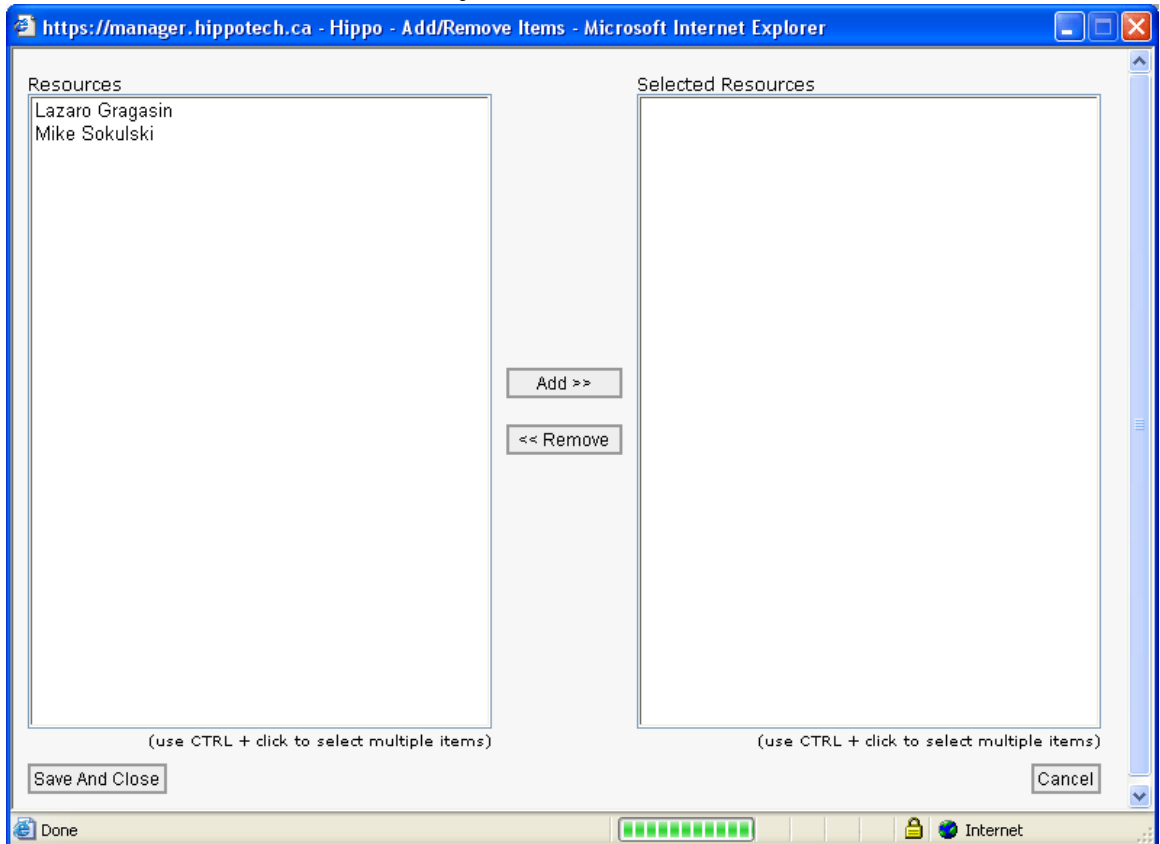

Figure 43: Adding Resources
- f. Resources (select the resources that will automatically be listed on the work order (See Figure 43))